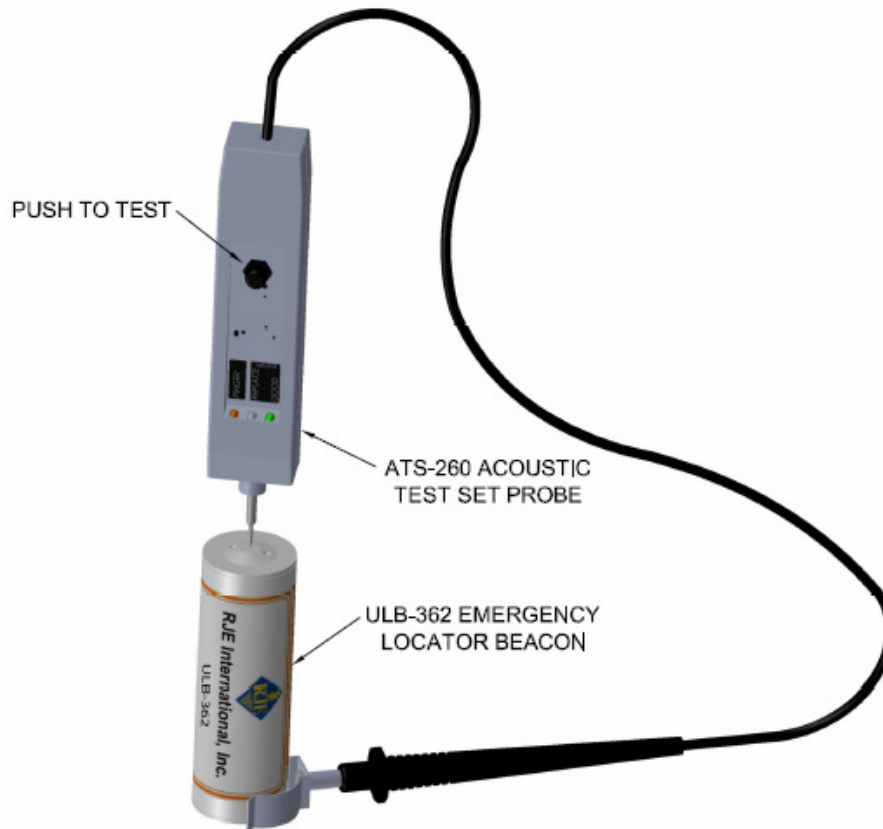

Figure 3-5 Connecting the ATS-260 Acoustic Test Set
1. Place the clip for the test set on the housing of the beacon as shown in Figure 3-5. If using the B362-05591 channel mount, it is not necessary to remove the beacon to conduct the test.
2. Place the test set probe on the water activation switch as shown in Figure 3-5.
2. Close the contacts that short the two conductors of the pig-tale connector to indicate a 'loss-of-power' as shown in fig 3-5. If the pig-tale is not wired to the vehicle, short the two conductors.
3. Place the test set probe on the water activation switch as shown in Figure 3-5.